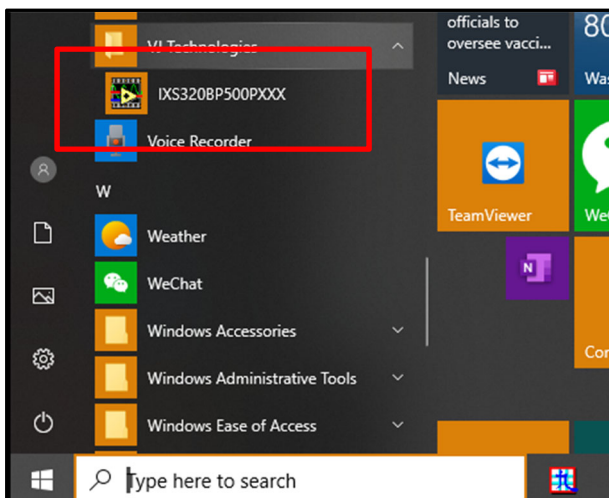

Fig 3-6 IXS run Program
3. Once the PC is restarted, go to **VJ X-Ray** or **VJ Technologies** in the Start menu and click on the name of your model number to open the GUI. (Fig 3-6)